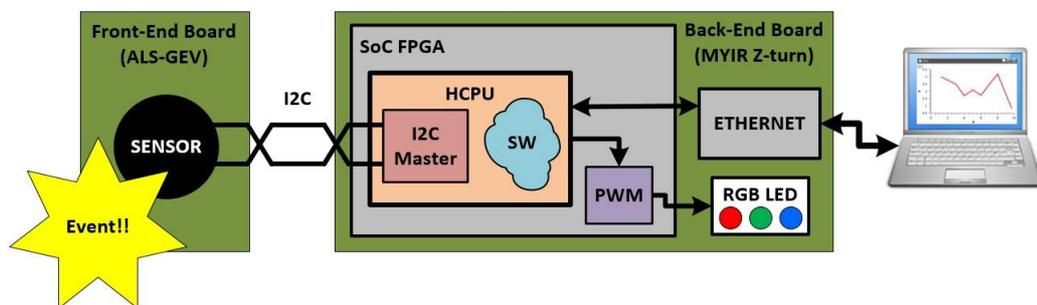

Figure 3: HEP experiment emulation block diagram
With the help of your team, you are going to implement an **emulator of a typical TDAQ system in High-Energy Physics (HEP) experiments**. For simplicity reasons, this TDAQ system may be divided in two groups. On one side, the **front-end (FE)** electronics, placed “close to the experiment”. On the other side, the **back-end (BE)** electronics, placed “close to the control room”. In this case, the communication between the FE and the BE is performed through a bidirectional serial link over copper cable. In a typical HEP experiment, the analogue signal from the sensor is filtered and shaped by the analogue FE electronics. This conditioned signal is digitized by an Analog to Digital Converter (ADC). Once in the digital domain, the raw data from the ADC is evaluated by the digital FE electronics (please note that this evaluation may be done in the analogue domain instead). When an event of interest occurs (e.g. particle crosses the sensor), the value of the raw data surpasses a preset threshold, triggering its transmission to the BE through the serial link. In the BE, the serial data is deserialized, processed, stored in memory and sent to the farm of computers through Ethernet by a CPU. Once in the farm of computers, this data may be post-processed, analysed and plotted by the users. In this lab, a devkit featuring an ambient light sensor (ALS-GEV) plays the role of the HEP experiment sensor and its related analogue and digital FE electronics. The communication between the FE and the BE is performed through a bidirectional Inter-Integrated Circuit (I2C) link over copper cable. A SoC FPGA devkit (MYIR Z-turn) is used as BE electronics. This SoC FPGA devkit communicates through Ethernet with a laptop running Python scripts over Linux, which emulates the farm of computers and the user's computer. The block diagram of the emulated HEP experiment is depicted in Figure 3.